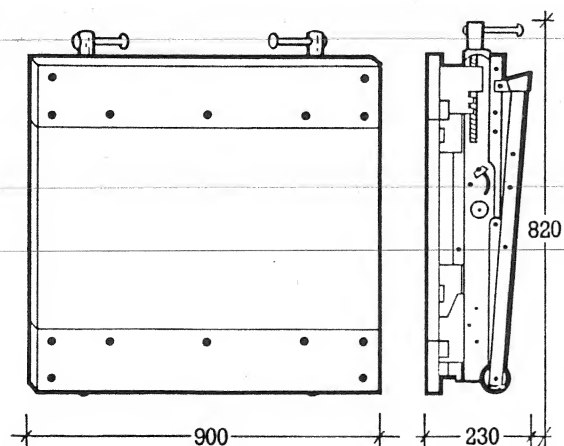
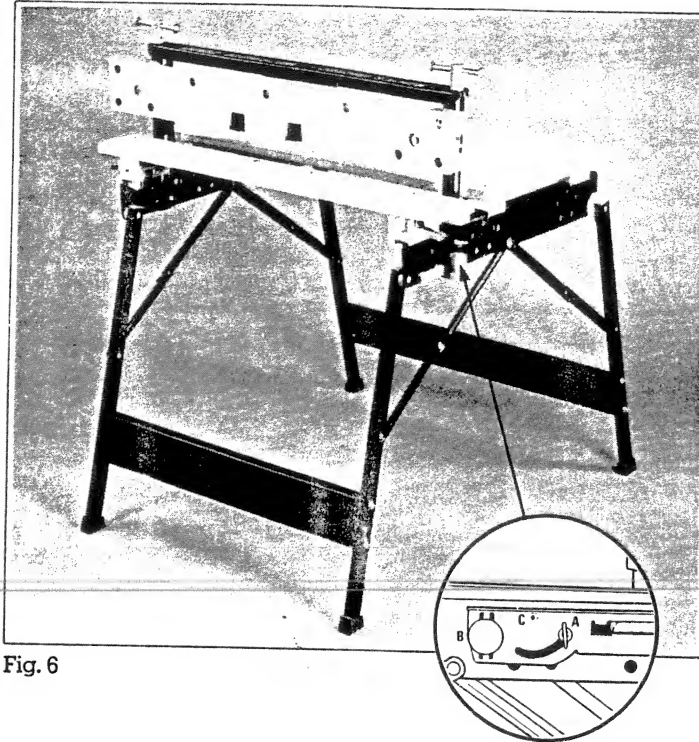
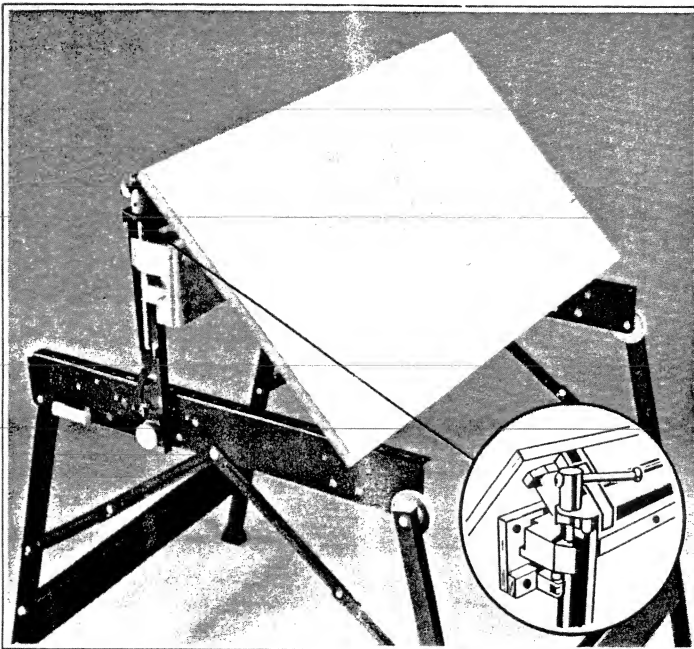

Fig.1
Fig. 6
Fig. 9
(C) Two metal drawing board brackets as shown in fig. 9.
Note: remember to use the swivel jaw clamping press location holes (D) fig. 1.
Follow the procedure shown in 90° clamping fig. 6 ensuring that the metal pins of the cam locks are released into the holes provided for 45° angles.(E) fig. 1.
The WM2000 can be converted into a drawing board with the aid of the two metal brackets provided. Follow the set up procedure in fig. 6. 90° vice adjustment. Set the swivelling vice jaw as shown in fig. 9. The removable vice jaw should be either removed as shown in fig. 9. or positioned at the front end of the parallel rails.
Lock the metal brackets into the plastic base supports (rectangular supports) of the centre board and clip over the front top cross member . As shown. fig. 9.